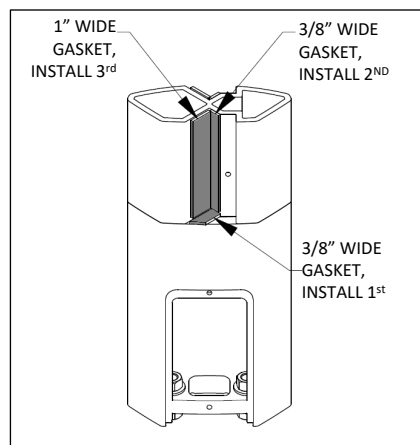

Fig. E5 – Gasket install on verticals
3. Install gaskets in verticals at locations that require glass panels. See Fig. E5 for orientation of gaskets. Remove paper backing to expose adhesive before attaching to vertical.